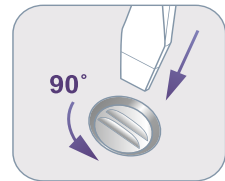

Fig. 5
- Remove the lid from the water purifier by turning the three latches counter-clockwise 90° (Figure 5).